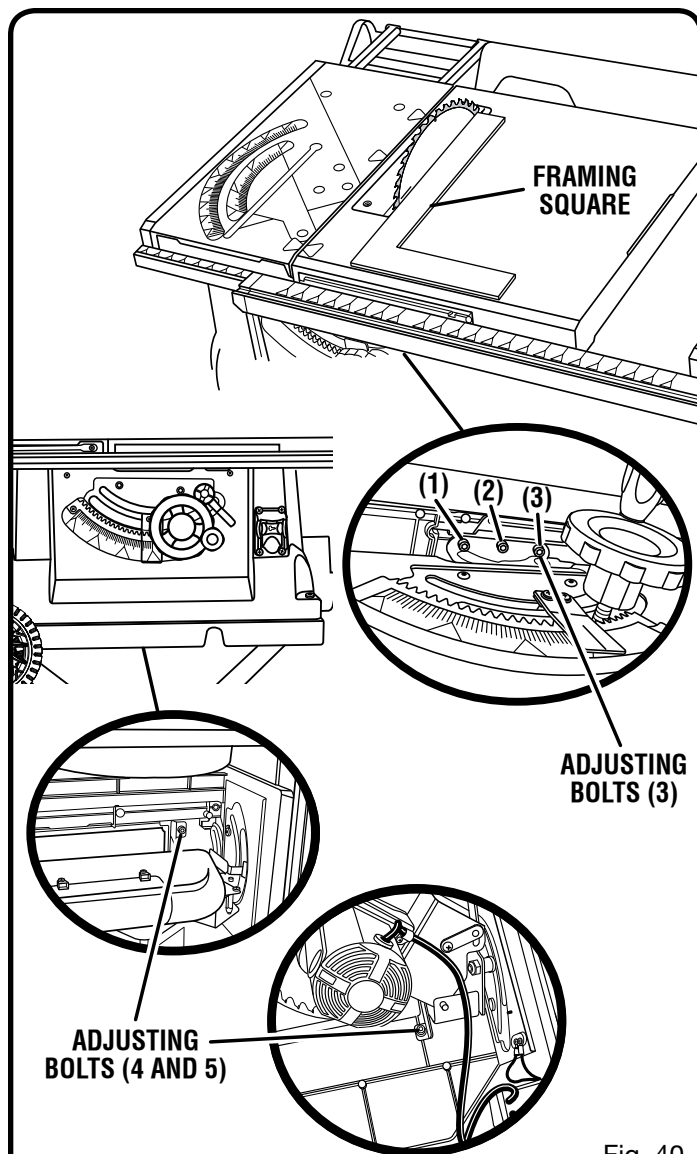

Fig. 40
See Figures 40 - 41.
- Mark beside one of the blade teeth at the front of the blade. Place a framing square even with the front of the saw table and the side of the saw blade as shown in figure 40.